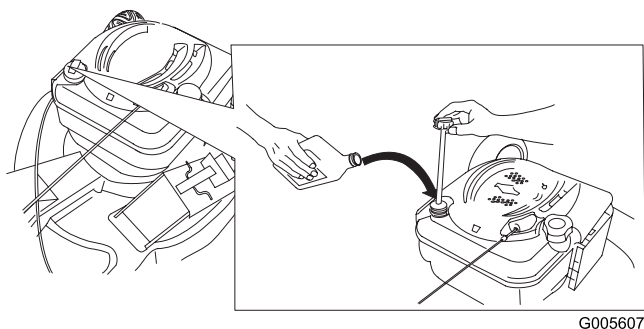

Figure 9
1. Retirez la jauge (Figure 9).